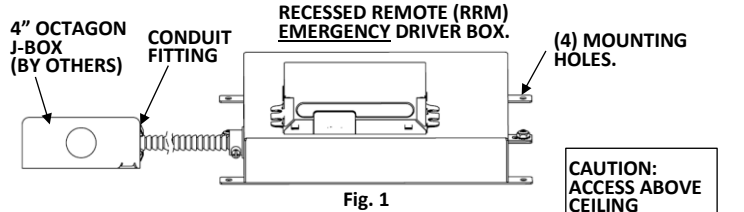

Fig. 1
1. **INSTALL RECESSED REMOTE BOX. Fig. 1,2**
TO REMOVE BODY AFTER INSTALLATION Fig. 1